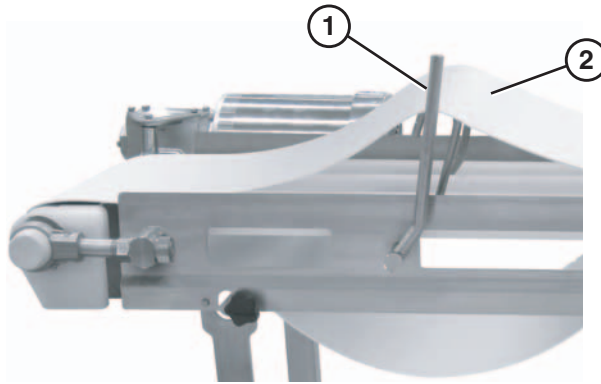

Figure 44
1. Remove the guides, if applicable, by removing the pull pins (**Figure 44, item 1**) that connect the guide (**Figure 44, item 2**) to the frame.
3. Use the lifter handle (**Figure 44, item 1**) to raise the belt (**Figure 44, item 2**).